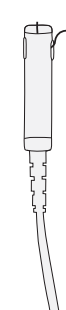

Figure 11
- Hanging via the mounting hole as shown in Figure 11 (in non-condensing environments only).